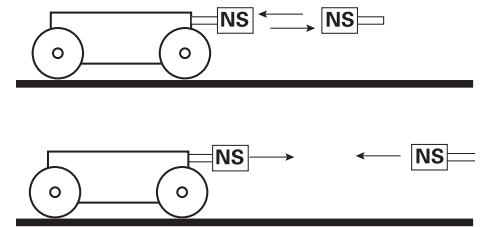

Figure 1
- The closer the stick is moved to the car, the stronger the force (figure 1).